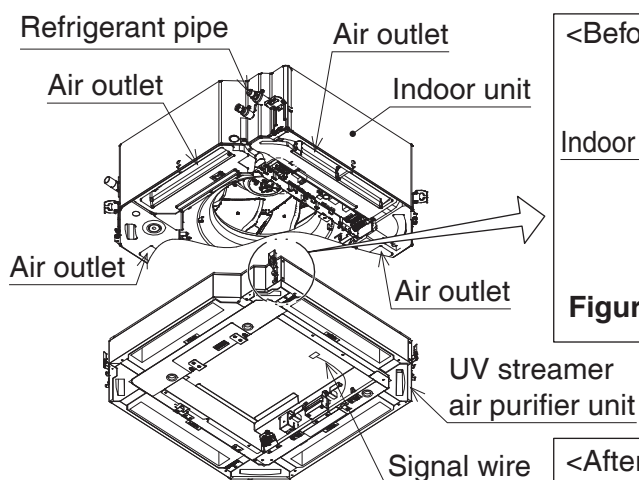

Figure 10
4. Mount the UV streamer air purifier unit to the indoor unit by using the unit-latching hooks (4 locations). (Refer to **Figure 10**.)
- (1) Remove the tape from the unit-latching hooks (4 locations). (Refer to **Figure 10**.)